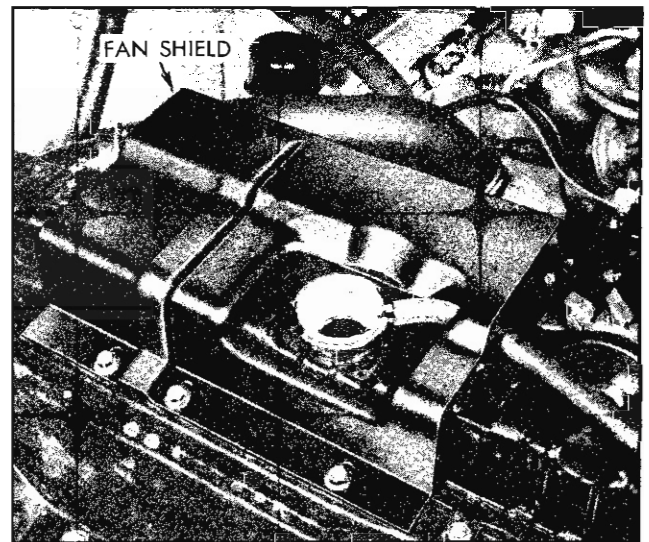

Fig. 6A-12 Radiator Fan Shield
3. Remove radiator fan shield (Fig. 6A-12).